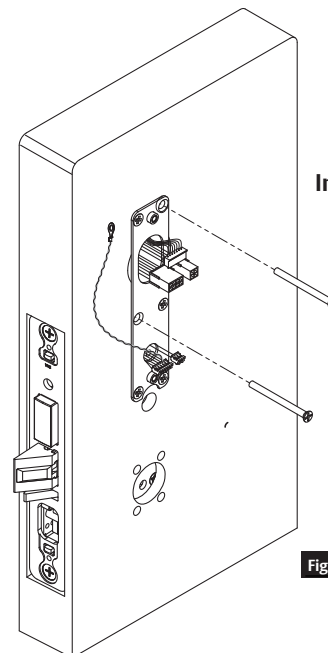

Figure 2
3. Secure the mounting plate to the outside escutcheon with (2) #8-32 x 2" flat head machine screws (Figure 2).